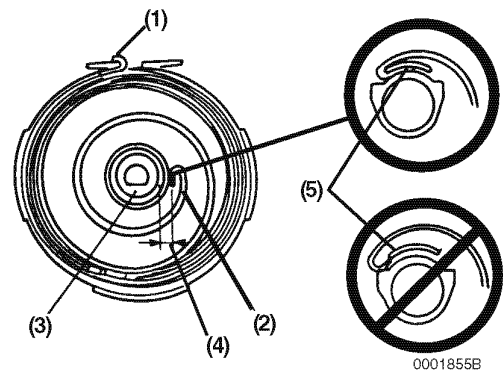

Figure 10-42
1. Securely hook the spring end to the starter housing (**Figure 10-42, (1)**). Install the recoil spring by carefully winding it into the housing as shown (**Figure 10-42, (5)**). *NOTICE: NEVER allow the recoil handle to snap back against the engine. Return the handle to the starting position gently to prevent damage to the starter.*
2. Adjust the shape of the inner end (**Figure 10-42, (2)**) of the spring so it is about 0.157 in (4 mm) (**Figure 10-42, (4)**) from the starter spindle (**Figure 10-42, (3)**).
5. Place the reel (**Figure 10-43, (3)**) into the housing (**Figure 10-43, (1)**). Be sure the boss (**Figure 10-42, (5)**) on the reel (**Figure 10-42, (2)**) engages the spring inner hook.